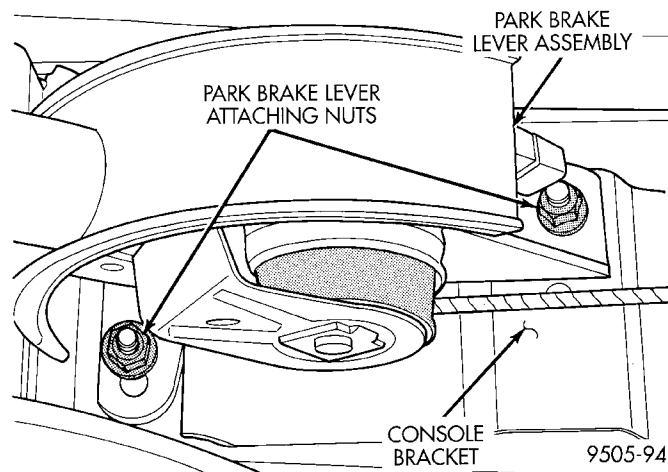

Fig. 131 Park Brake Lever Attachment To Console Bracket
(9) Remove the 2 nuts (Fig. 131) attaching the park brake lever to the console bracket. Remove park brake lever mechanism from vehicle.
(1) Place park brake lever on console bracket. Install and securely tighten the 2 attaching nuts (Fig. 131).